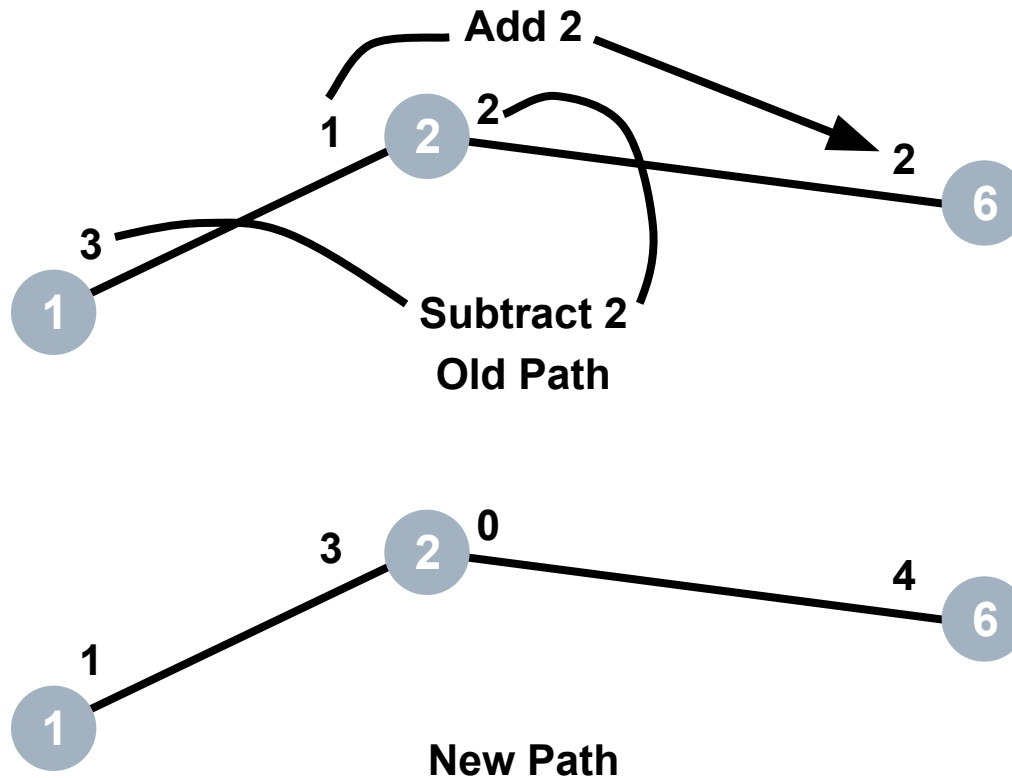

Figure 11.7
- The result is the new path in Figure 11.7 which shows the new relative capacity of the path at this stage.